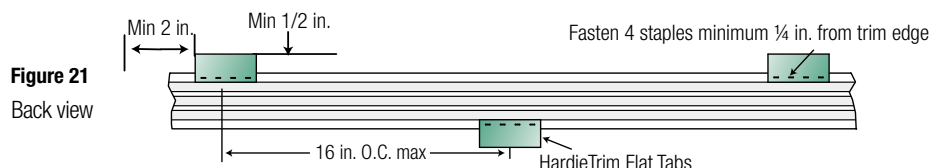

Figure 21
Step 1: Attach HardieTrim Flat Tabs to the back side of the trim using four, 18 ga. 1/2 in. L x 1/4 in. W narrow crown corrosion resistant staples, equally spaced in one row, positioned no closer than 1/2 in. from trim edges using a pneumatic staple gun. (figures 21 & 22)
Terminate ends of the Band Board into Trim or Siding or miter cut the edges of the trim at the corners of the building. Place a HardieTrim Flat Tab at the end of each trim board and one tab every stud at a maximum of 16 in. O.C. The HardieTrim Flat Tabs should be attached to the trim in an alternating pattern to the top and bottom of the band board (figures 21, 22). Use 16 ga. galvanized 2 in. long finish nails to ensure proper fastening if needed.